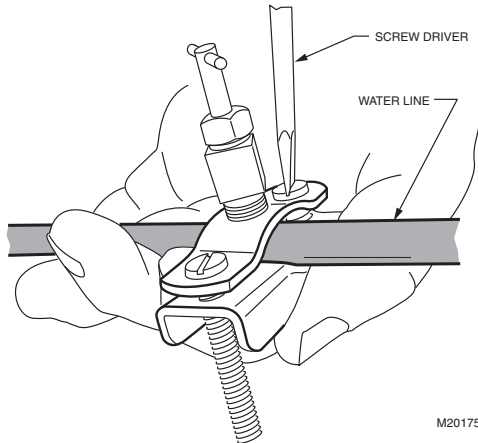

Fig. 5. Installing the saddle valve.
2. Use the self-piercing saddle valve (included) to tap into the water supply line at the location selected. See Fig. 5. If tapping into galvanized pipe, drain line and pre-drill 3/17 in. tap for saddle valve. The saddle valve is not designed to regulate water flow. The valve is either open or closed.